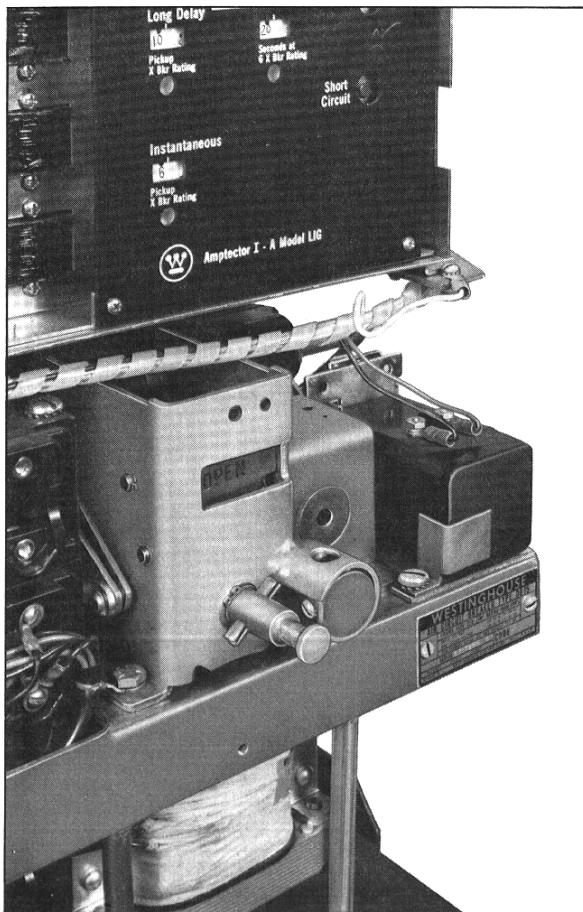

Fig. 17 Actuator Mounted on DB-15
- Using the Actuator as a template, drill and tap a .25-20 hole in the breaker platform at the left rear of the Actuator. Secure Actuator to platform using .25-20 x .5 sems screw, see Fig. 17.
5. Connect the green wire to the end of the right Amprector support bracket using .164-32 x .5 mach. screws, nuts and washers. This now grounds the sensor star point, see Fig. 17.